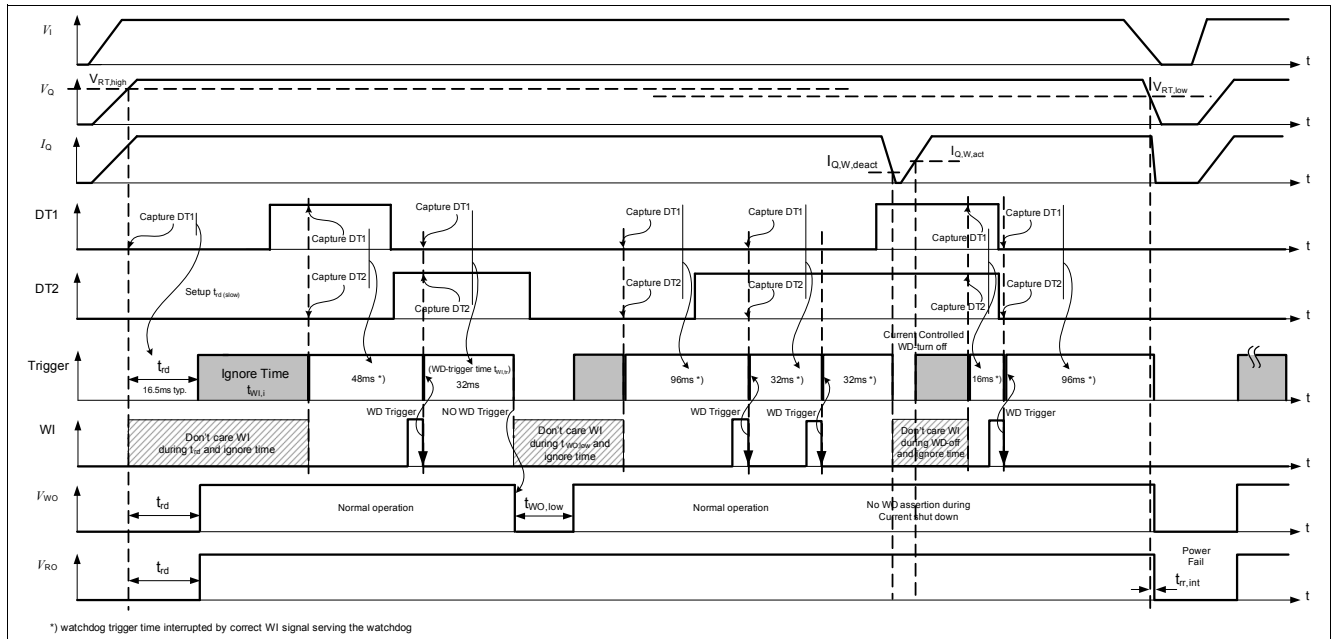

Figure 9 Typical Watchdog Timing Diagram, Watchdog and Reset Modes
Figure 9 shows the state diagram of the watchdog (WD) and the mode selection. After power-on, the reset output signal at the “RO” pin (microcontroller reset) is kept LOW for the reset delay time t_{rd} . With the LOW to HIGH transition of the signal at “WO” the device starts the watchdog ignore time $t_{WI,i}$. Next, the WD starts the watchdog trigger time (time frame within a trigger at WI must occur).